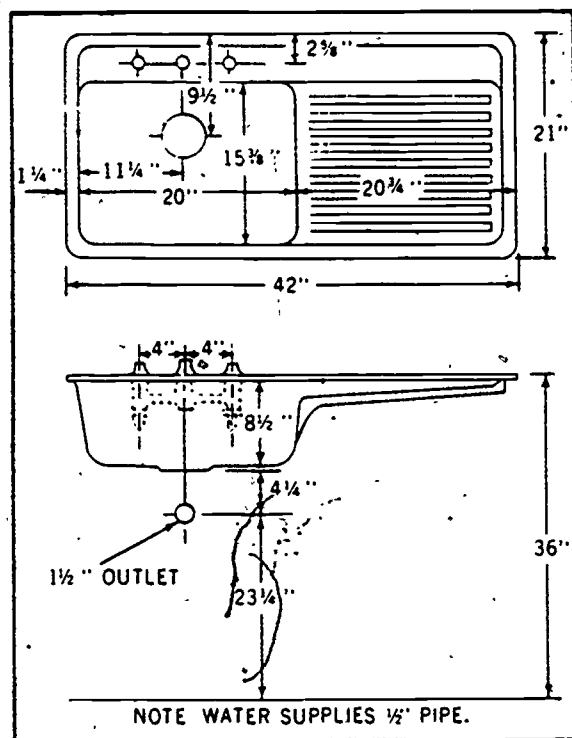

Figure 5-19. Rough-in specifications for a kitchen sink.
**Installation of kitchen sinks.** The rough-in specifications for a kitchen sink are shown in figure 5-19. Always study the specifications before you install any type of kitchen sink. Even though you have installed other types of sinks, you must follow the specifications as listed by the manufacturer for the particular sink that you are installing.